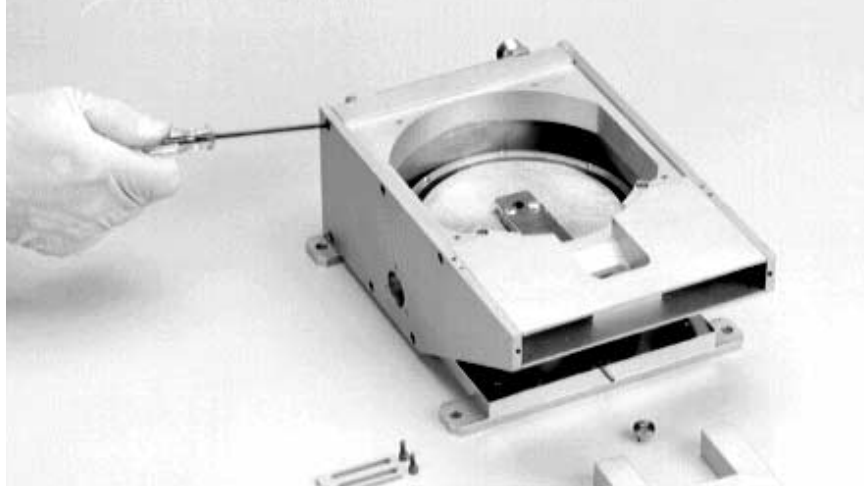

Figure 6-8. Removing the screws that secure the coil housing to the pole pieces
Step 11: Remove the screws that secure the left-hand pole piece to the coil housing and loosen the screws that secure that pole piece to the source base plate (see Figure 6-8).